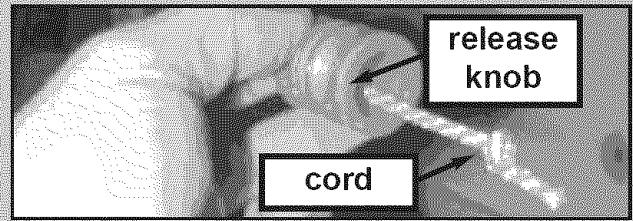

Fig. 1-17
- Slide cord through center of knob [18]. **Fig. 1-17.**